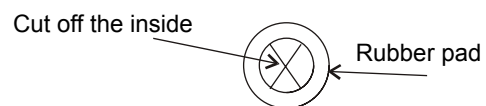

Fig. 5.1 Rubber pad
- (1) As shown in Fig. 5.1, cut the rubber pad center at the wire connection hole into a cross.
- (2) Penetrate through the connection hole on the electric control box, and connect the wired controller.
- (3) Connect the power line and the grounding line with the terminal board of the electric control box.
- (4) Fasten the wires in the electric control box with the bundle.
- (5) After the wires are connected, seal the connection port of the wires with sealing materials (with a cover) to prevent condensed water or insects from entering.
- (6) Put the power supply wiring through a conduit tube and make sure that the conduit tube and electrical control box were properly fixed.